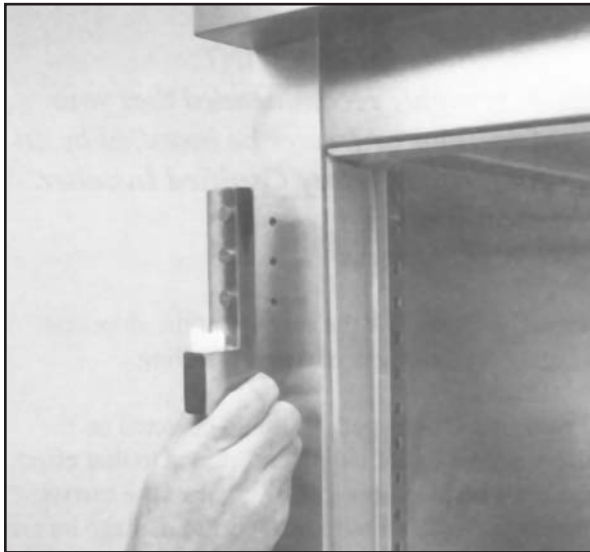

Figure 2-2
- b. Remove the front air grille by removing the two (2) sheet metal screws on the inside of the grille at each end. Push up at the bottom of the grille to disengage the rivets from the keyhole slots and pull forward.
- a. Refer to Figure 2-2. To remove the hinge base from the cabinet fascia, unscrew the three machine screws.